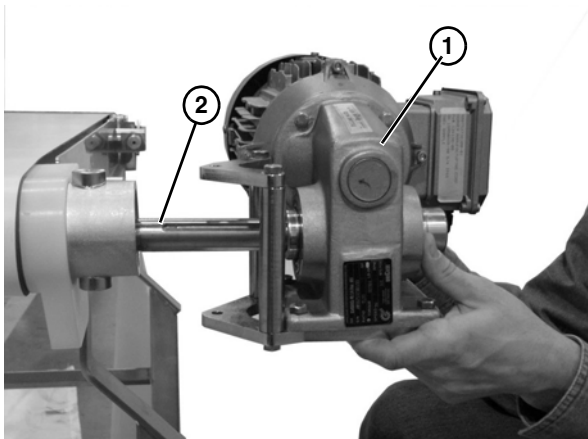

Figure 55
- Slide the gearmotor assembly (**Figure 55, item 1**) off of the drive spindle (**Figure 55, item 2**).